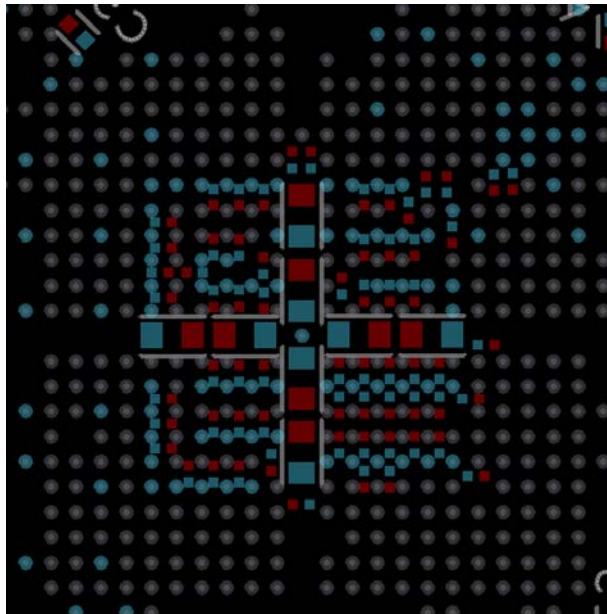

Figure 2-4. i.MX6DQ fanout example, bottom view
- Bottom layer (Figure 2-4)
The fanout scheme creates a four quadrant structure that facilitates the placement of decoupling bulk capacitors on the bottom side of the PCB (see Figure 2-4).